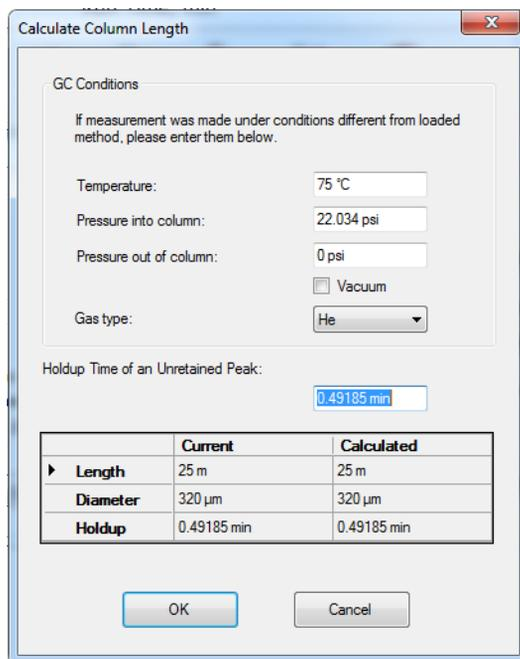

Figure 9. Calibrate column length dialog
- 8 Click **Calc Length** in the **If unretained peak holdup time is known** section to display the **Calculate Column Length** dialog. (See Figure 9.)